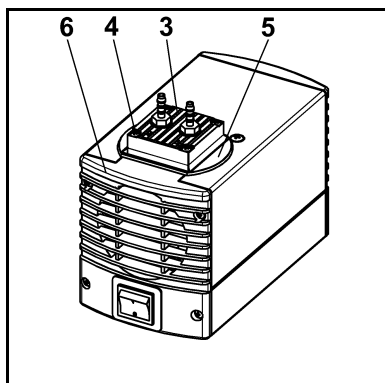
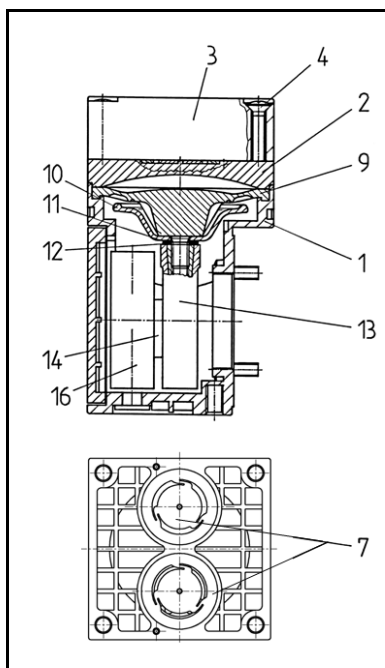

Fig. 5: Removing pump head
Fig. 6: Pump head
1. Mark the position of head plate (Fig. 5/3), cover (5) and cover plate (6) by a drawing line with a pencil. This helps to avoid incorrect assembly later.
2. Undo the 4 screws (4) in the head plate (3) and lift the head plate together with cover (5) off the pump housing.
3. Mark the position of intermediate plate (fig. 6/2) and housing (1) relative to each other by a drawing line with a pencil.
4. Lift intermediate plate (2) off the housing (1).
1. Remove the valve plates/sealings (fig. 6/7) from the intermediate plate (2).
2. Check that the valve seats, the head plate (3) and intermediate plate (2) are clean. If scratches or distortion are evident on these parts they should be replaced.
3. Lay the new valve plates/sealings (7) in the recesses in the intermediate plate (2). The valve plates/sealings for suction and pressure sides are identical, as are upper and lower sides of the valve plates/sealings.
4. Check that the valve plates/sealings (7) are not deformed by moving them gently sideways in their recesses.
1. Place the intermediate plate (2), with valve plates/sealings (7) on the housing, in the position indicated by the drawing line.
2. Place the head plate (3) with cover (fig. 5/5) on the housing (fig. 6/1), in the position indicated by the drawing line.
3. Check that the head plate (3) is centred by moving it gently sideways.
4. Tighten the screws (4), evenly and diagonally, first gently, then firmly.